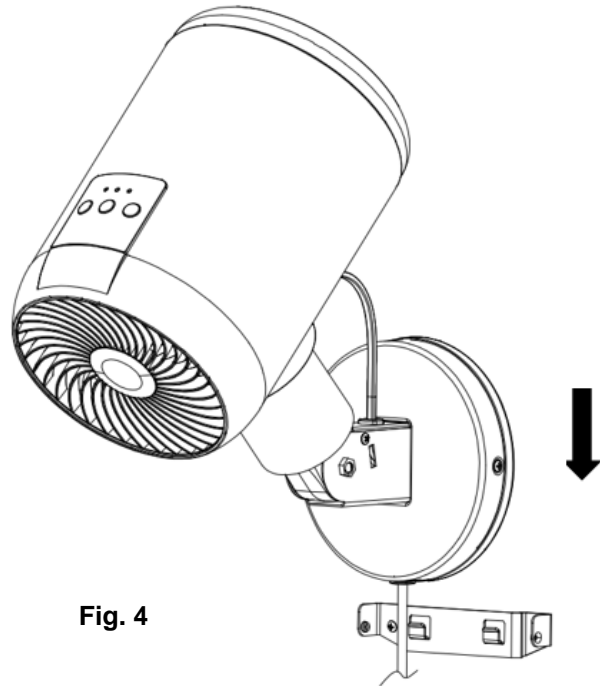

Fig. 4
- Hang the fan assembly onto the mounting bracket. (Fig.4)